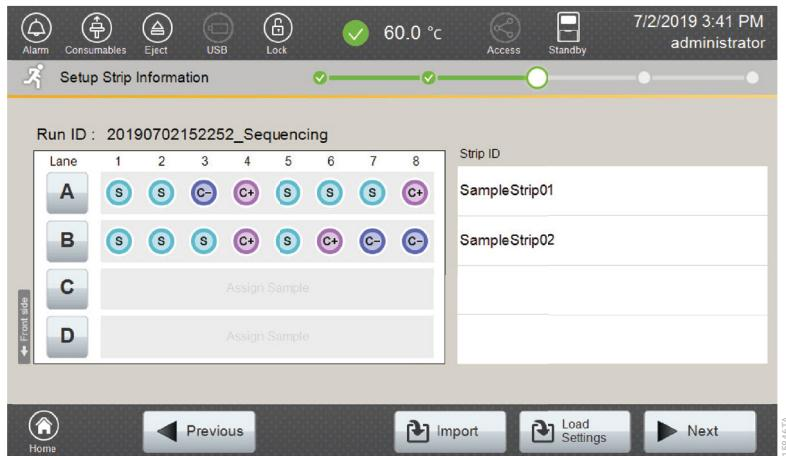

Figure 92. Completed 'Setup Strip Information' screen.
10. After all the required lanes have been set up, select **Next** on the 'Setup Strip Information' screen (Figure 92).